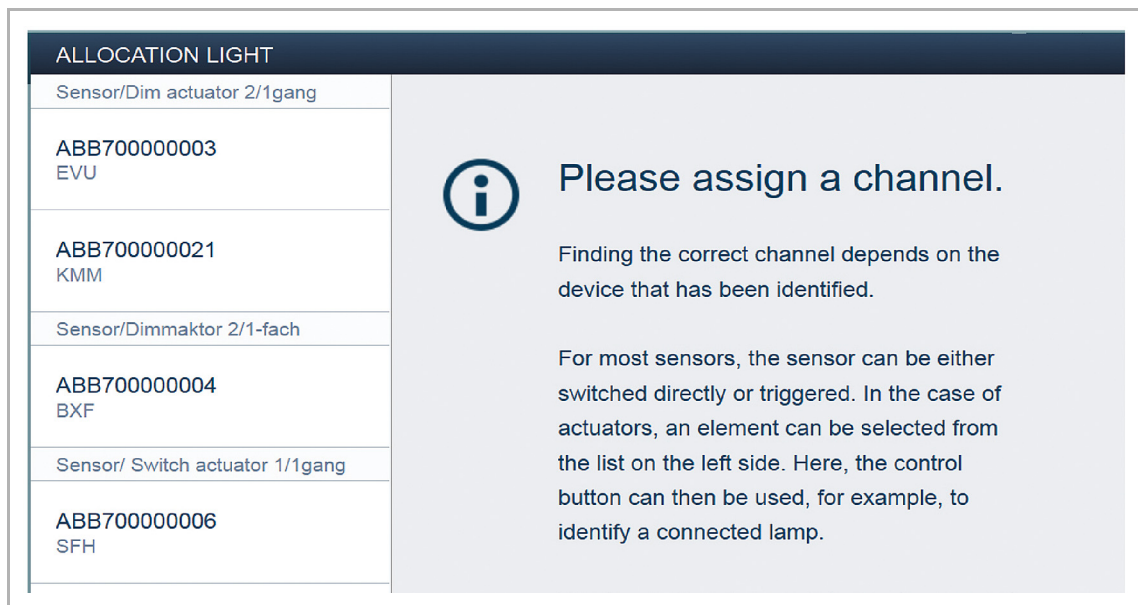

Fig. 27: Pop-up window with the suitable devices
- A pop-up window opens which lists all the devices that are connected to the bus and suitable for the selected application (e.g. all blind actuators, if the blind application has been selected, see Fig. 27).